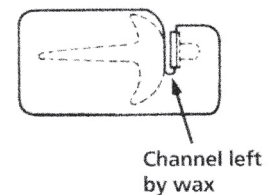

Fig. 8
5. When the investment has set, boil out, flux lightly and trim the investment block as small as possible (Fig. 8). Dry out completely in a burnout furnace at 1200°F (650°C).